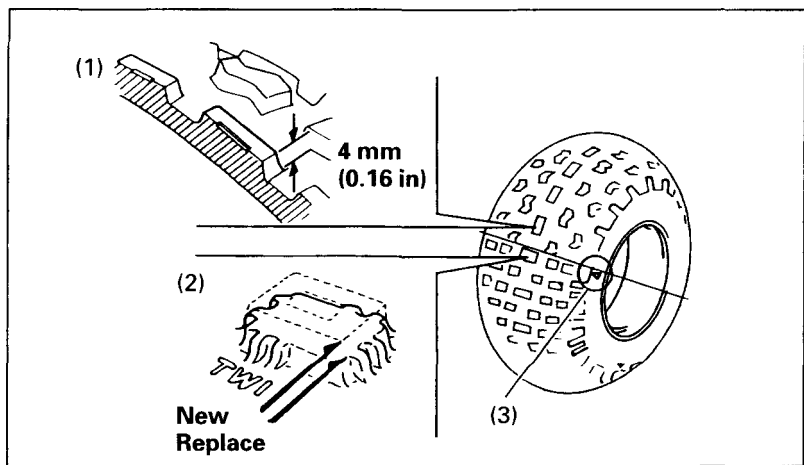

Fig. 4-32
To check the condition of a tire tread, measure the groove depth (1) (Fig. 4-32) in the center of the tire, or check the wear indicator (2).